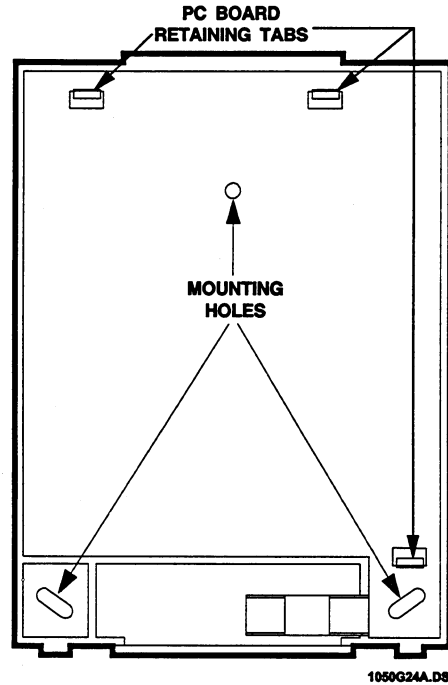

Figure 4. Mounting with Circuit Board Removed
3. Hold the base against the mounting surface and mark the three mounting holes (see Figure 4). Remember to leave at least 10" above the base for the antenna.